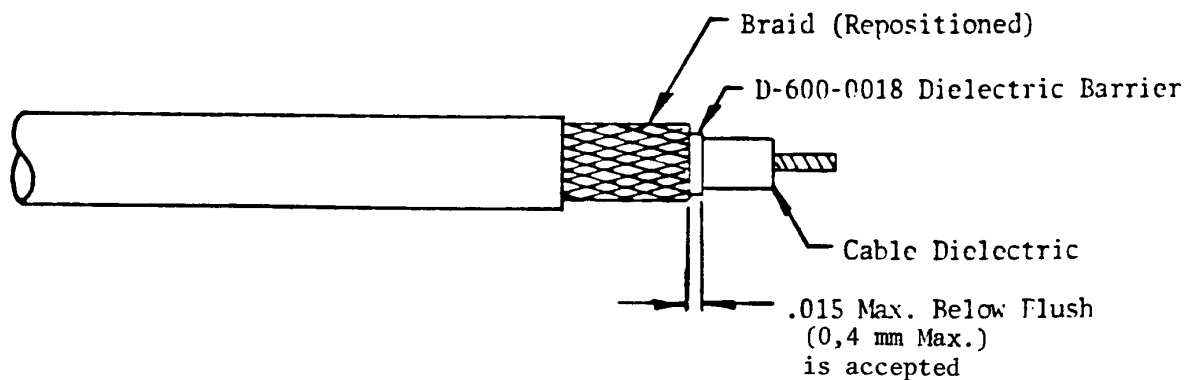

Figure 4A
5.1.7.2 Install the dielectric barrier tube, D-600-0018 and smooth the braid back over the barrier tube per Figure 4A.